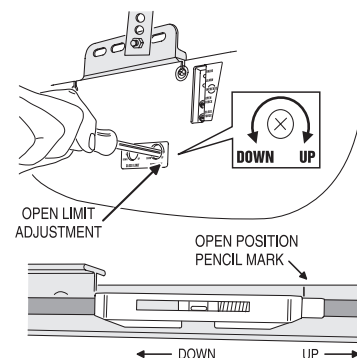

Figure 3A Adjusting the open limit
- D Adjust the open limit (**Figure 3A**).